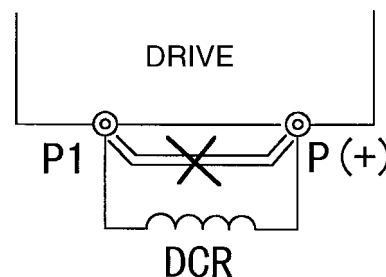
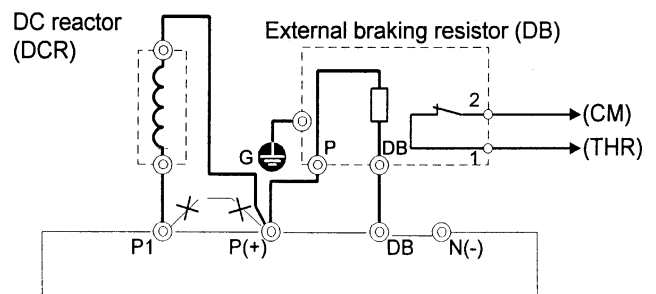

Fig. 2-3-3
Fig. 2-3-4 Connection (15 Hp or less)
2. When you need to connect source type logic, refer to Basic Connection Diagram Fig. 2-3-3 and Fig. 2-3-4 and Technical Information Manual. (Sink Logic is commonly used in the USA and Source Logic is commonly used in Europe.)
**(5) Others**